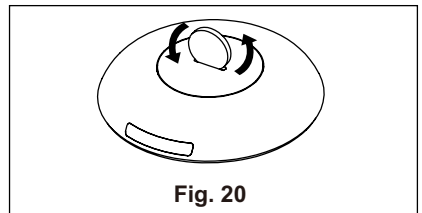

Fig. 20
2. Use a coin or something like that to rotate the back cover anti-clockwise to open it. (Fig. 20 & 21)